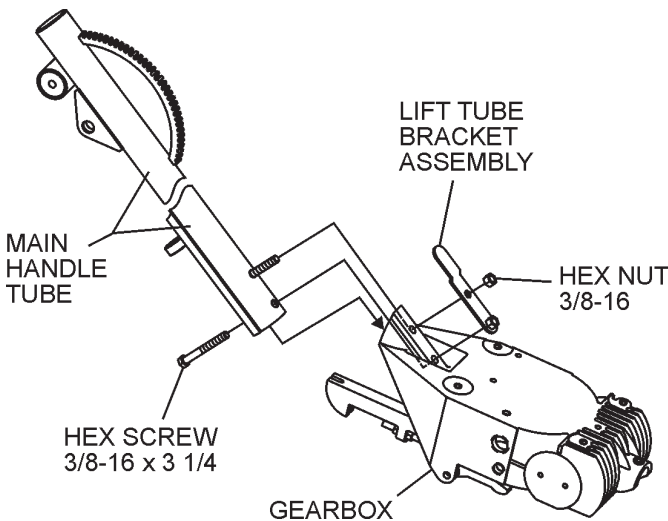

Figure 5. Handle Tube Installation
1. Install the **handle tube** to the gearbox as shown in (Figure 5). The mounting hardware should be contained in the shipping container with the handle.